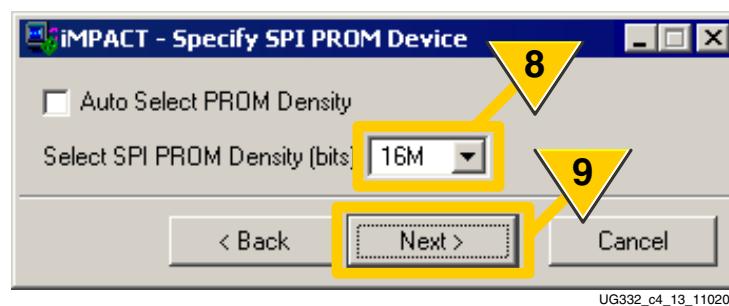

Figure 4-12: Select SPI PROM Density
- As shown in Figure 4-12, select the **SPI PROM Density** of the targeted device, measured in bits.